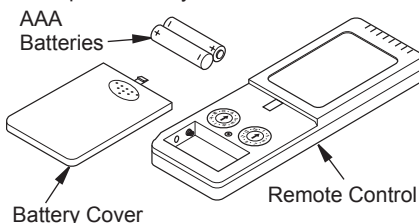

Figure 15 - Installing Batteries in Hand-Held Remote Control
2. Remove battery cover and insert supplied batteries into remote control as shown in Figure 15.